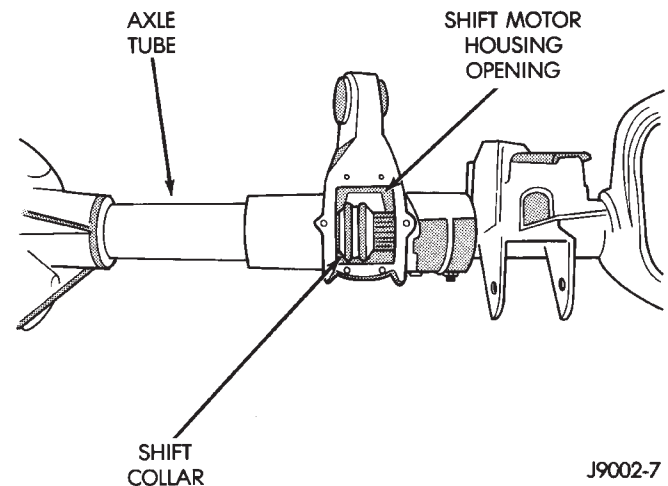

Fig. 18 Shift Collar Installation
- (5) Insert the intermediate axle shaft into the differential side gear.
- (6) Install the shift collar on the splined end of the intermediate axle shaft.
- (7) Lubricate the splined end of the intermediate axle shaft with multi-purpose lubricant (Fig. 18).